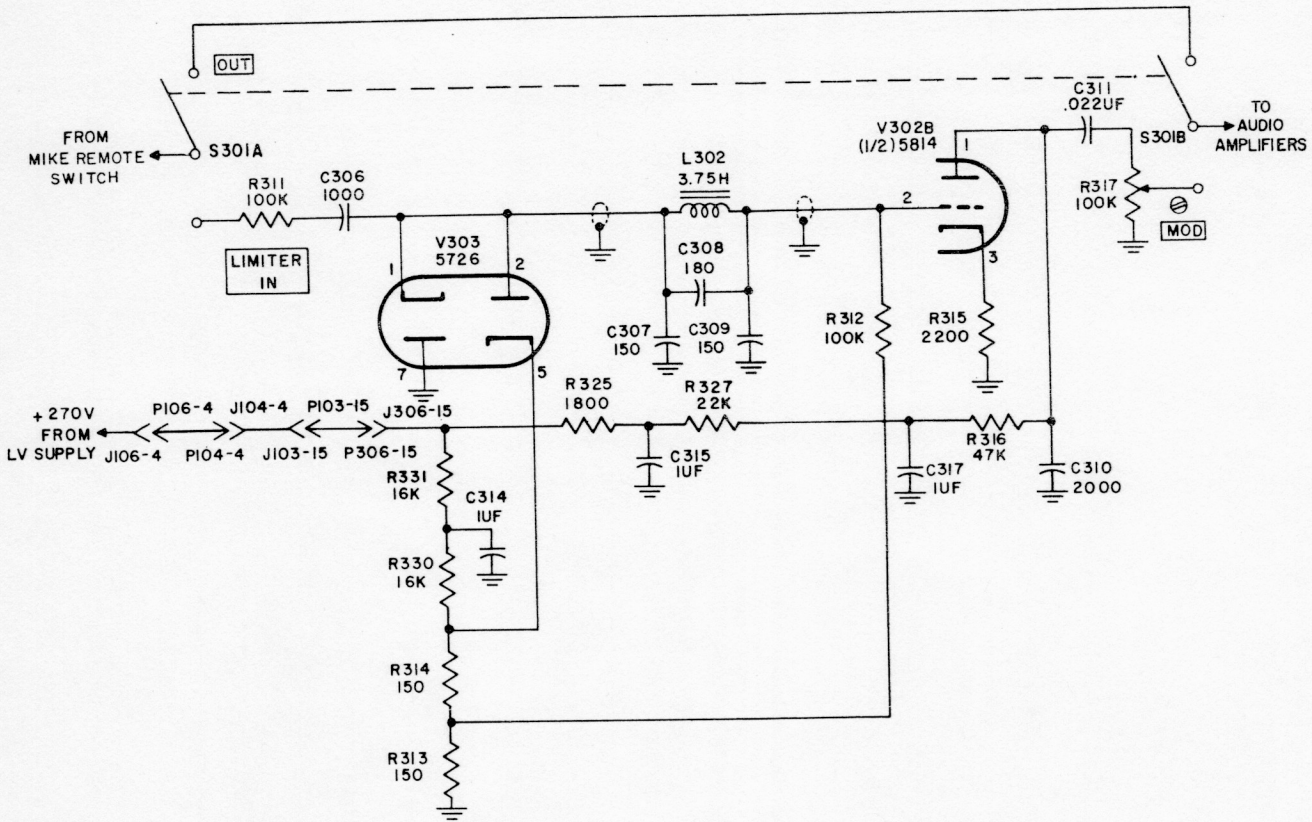

Figure 4-8. Audio Limiter, Simplified Schematic Diagram
c. AUDIO LIMITER. - (Refer to figure 4-8.) The audio limiter consists of V303, a type 5726 double diode, connected in a shunt type limiting circuit. The cathode of V303A and the plate of V303B are held at +1.5 v; the plate of V303A is connected to ground while the cathode of V303B is held at +3 v. The audio signals from switch S301A, thus, are limited to an upper level of +3 v and a lower one of ground.